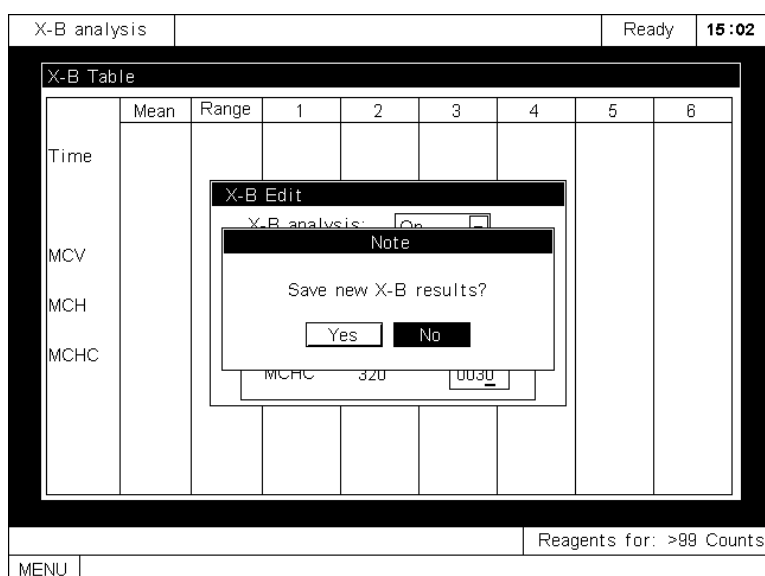

Figure 4-18 Dialog Box to Confirm the Changes
- A. Press [MENU] and a dialog box will pop up to remind the user to save the changes, as Figure 4-18 shows. You may
- B. If you neither entered new settings nor changed the old settings, you may press [MENU] to directly return to the **X-B Analysis** screen without seeing the dialog box shown in Figure 4-18. If you want to print out the saved X-B settings, press [PRINT]. Note newly entered or changed settings will not be printed out until they are saved.